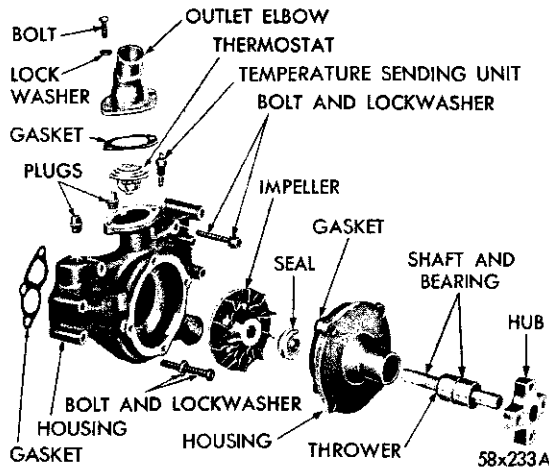

Fig. 3—Water Pump Assembly
2. WATER PUMP (Removed from the Vehicle) (Fig. 3)
Disassembly (Fig. 3)
Assembly (Fig. 3)